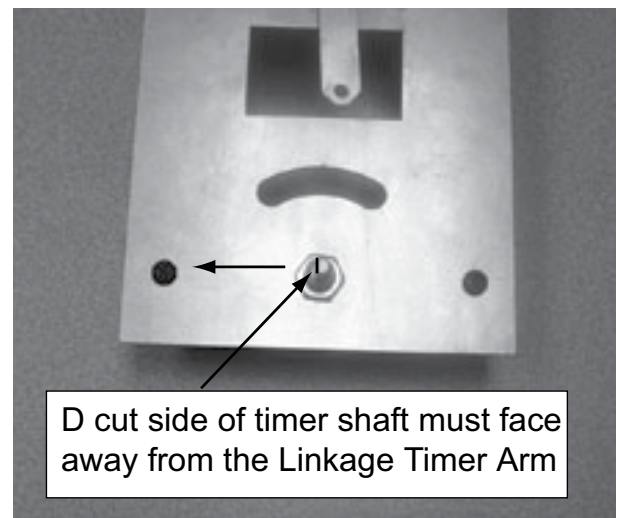

Figure 36.6
2. Install new timer using same 2 screws. It is very important that the D cut side of the timer shaft is facing the opposite side of the linkage timer arm. Figure 36.6.